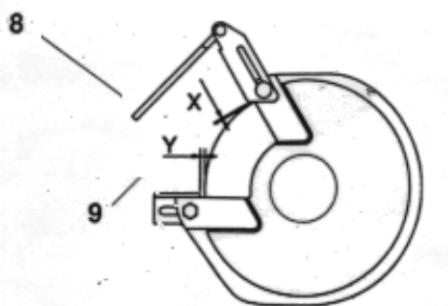

fig. 1
- \* **Never use the machine without the appropriate protection devices**, which must never exceed the distances indicated below. These, therefore, must always be reset as and when the wheel becomes worn, registering the position of the protective screen holder and of the support (fig. 1) so as to maintain the minimum distance required at all times:
- distance (X) between the protective screen holder and the wheel = max. 5 mm.
- distance (Y) between the positioning supports and the grinding device = max. 2 mm.